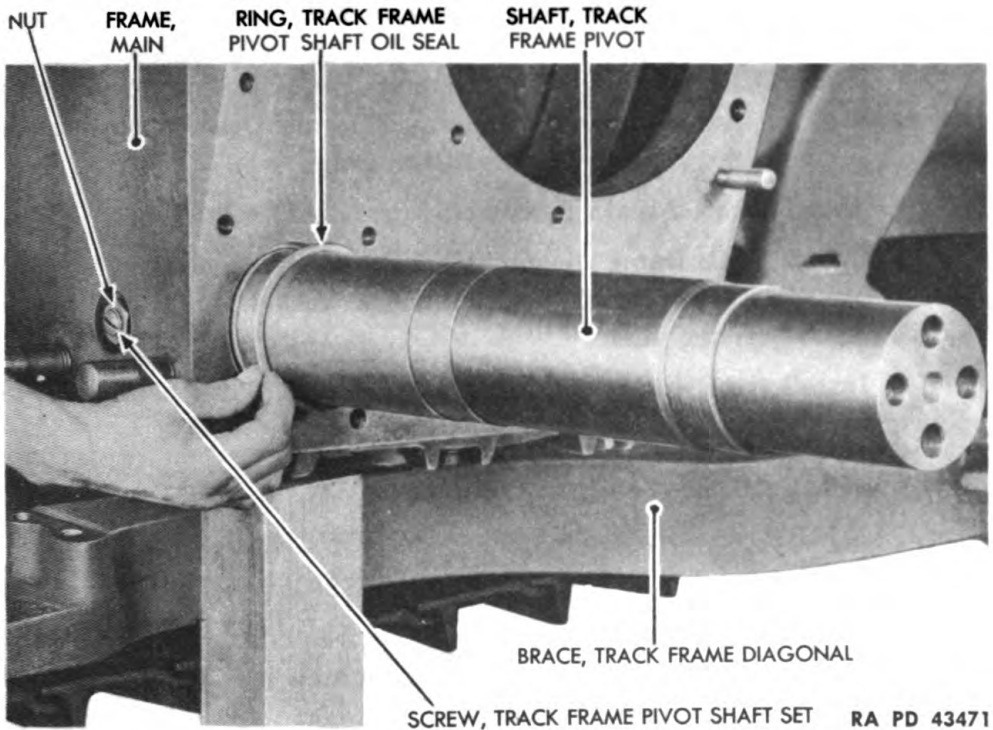

Figure 132 — Track Frame Pivot Shaft Oil Seal Ring Removal
(3) REMOVE TRACK FRAME PIVOT SHAFT (fig. 132).
(5) INSTALL TRACK FRAME PIVOT SHAFT (fig. 132).